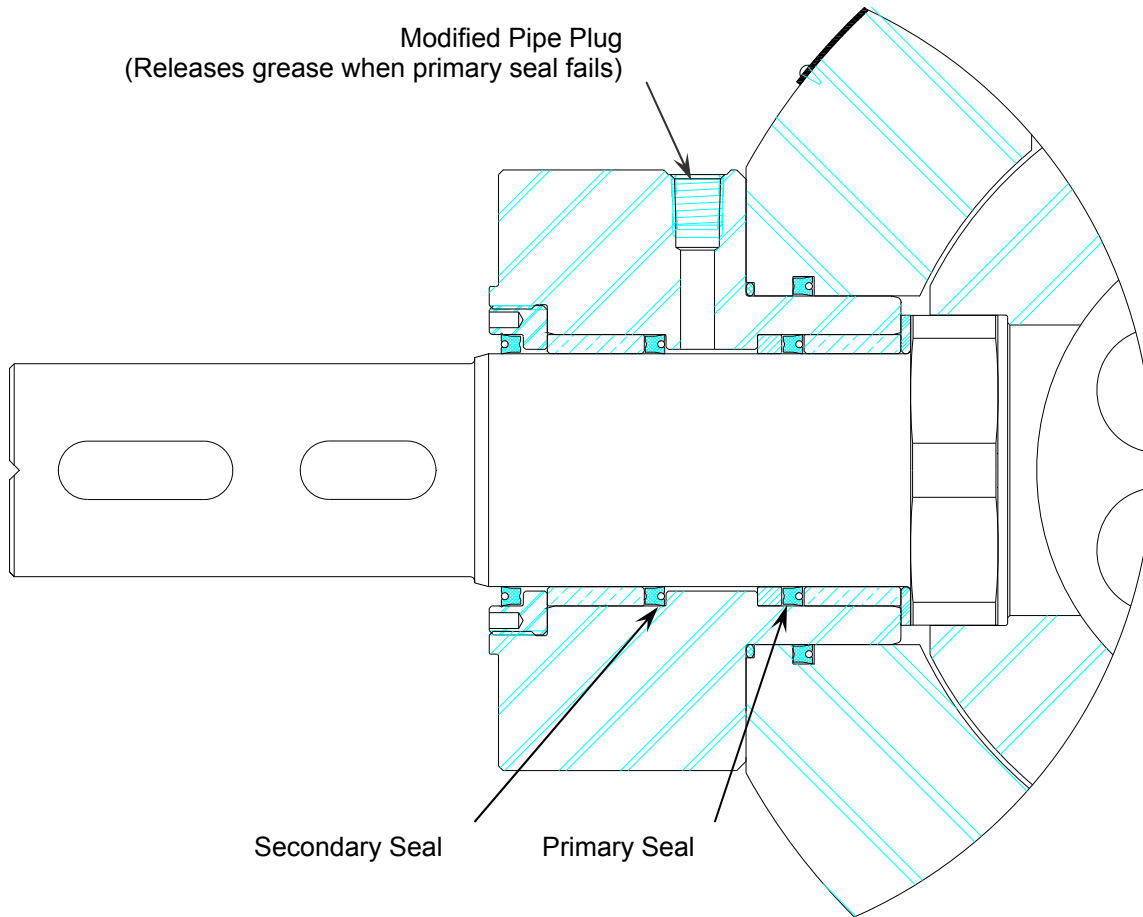

Figure 7: Stuffing Box Sub-Assembly c/w Modified Pipe Plug
- 3) 4" 1500, 6" 1500 and 8" 150-1500 ANSI Class model "P" Pig Valves are equipped with a modified 3/8" pipe plug that has a built in leak path (see Figure 7). Should the primary rotating stem seal fail a small amount of grease will be displaced thru this modified pipe plug.